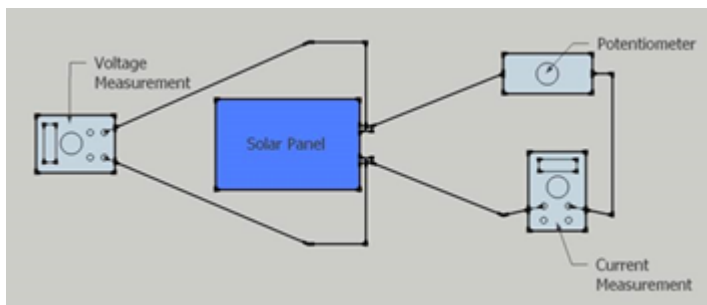

Figure 1: The electrical circuit configuration to measure voltage and current
4. Display Voltage for the first column in the table and the x -axis of the graph. Display Current for the second column of the table and the y -axis of the graph. Change the units for Current from amps (A) to milliamps (mA).
8. Build the circuit with the voltage sensor, current sensor and potentiometer as shown in Figure 1.